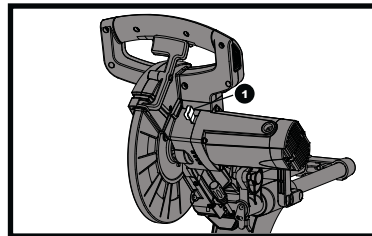

Fig 12
- 5) Locate the arbor lock (1). (See fig. 12)